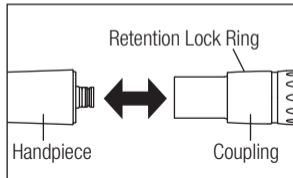

Fig. 2
- 1) Insert the handpiece into the Coupling (Fig. 2).
Pull back the Retention Lock Ring and remove the handpiece from the Coupling (Fig. 2).